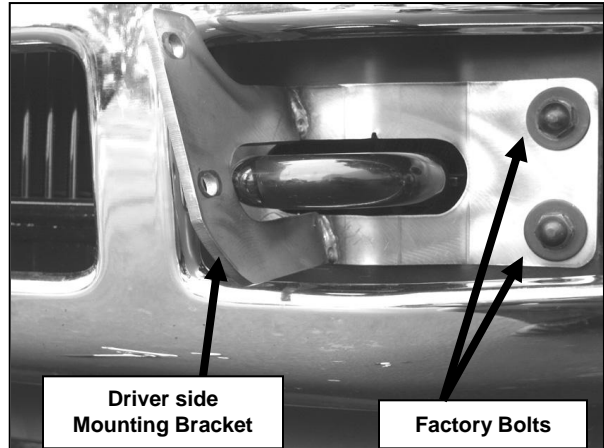

Figure 3
- 4.** Place Mounting Bracket onto vehicle and line it up against the outer gusset bend on the frame. Leave about 1/8" clearance between bottom of Mounting Bracket and bumper. Secure Mounting Bracket to vehicle using the factory bolts (Figure 3). Fully tighten these bolts at this time.